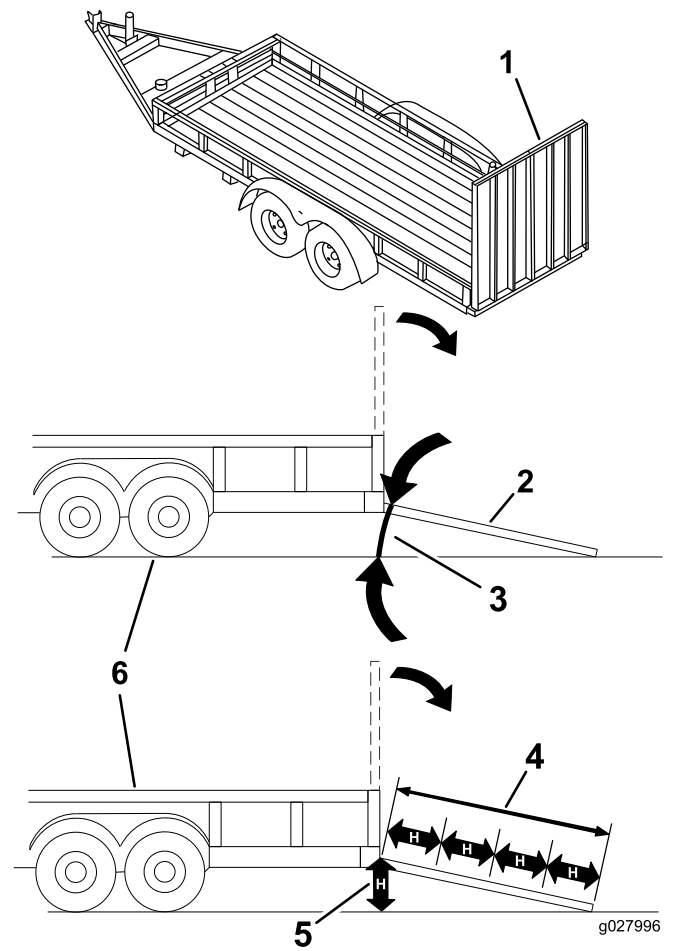

Figure 39
Loading a machine onto a trailer or truck increases the possibility of tip-over and could cause serious injury or death (Figure 39).
3. Lower the ramp, ensuring that the angle between the ramp and the ground does not exceed 15 degrees (Figure 39).
1. Lower the ramp, ensuring that the angle between the ramp and the ground does not exceed 15 degrees (Figure 39).